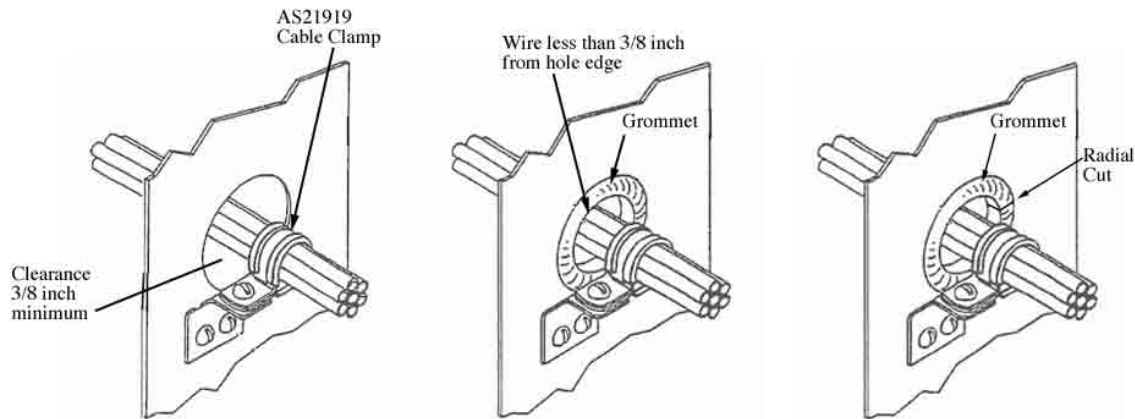

Figure 19. MS35489 Donut Grommet Installation
are to be disturbed only if a maintenance action is required on these fiber optic items themselves or when removal MUST be done as part of another maintenance action. Split a donut grommet by making one radial cut from the center (hole) to the periphery. (To reverse the direction of the cutting action and reduce any chance of cutting the harness). See Figure 19 for example of installed and cut grommet.
d. Verify the grommet is installed without being damaged. Correct size donut grommet does not need to be cut to be installed with no damage. Grommet is to be cut only when installing a new donut grommet over fiber optic cables, cable bundles and cable harnesses or if existing obstacles (at the hole) prevent complete installation. See Figure 19.